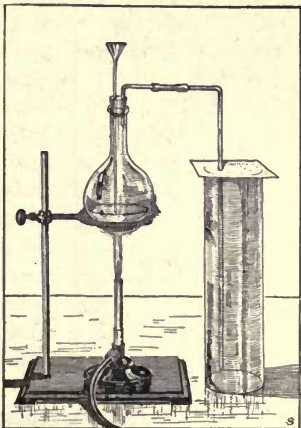

FIG. 55. Preparing and collecting chlorin.
**Exercise 1.** Put a small piece (of the size of a kernel of wheat) of potassium chlorate in a glass flask or test tube. Cover it with a few drops of hydrochloric acid and warm gently. The gas, chlorin, will be given off. It may be dissolved by pouring water upon it, or it may be collected in a jar by downward displacement of air, as shown in Figure 55.